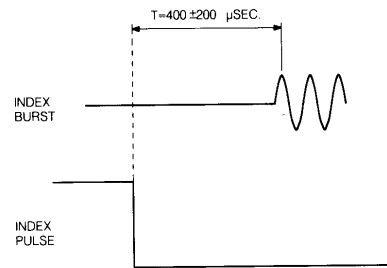

Fig. 6
- Adjust VR2 for a period time T (see figure 6) of $400 \pm 200 \mu$ s.